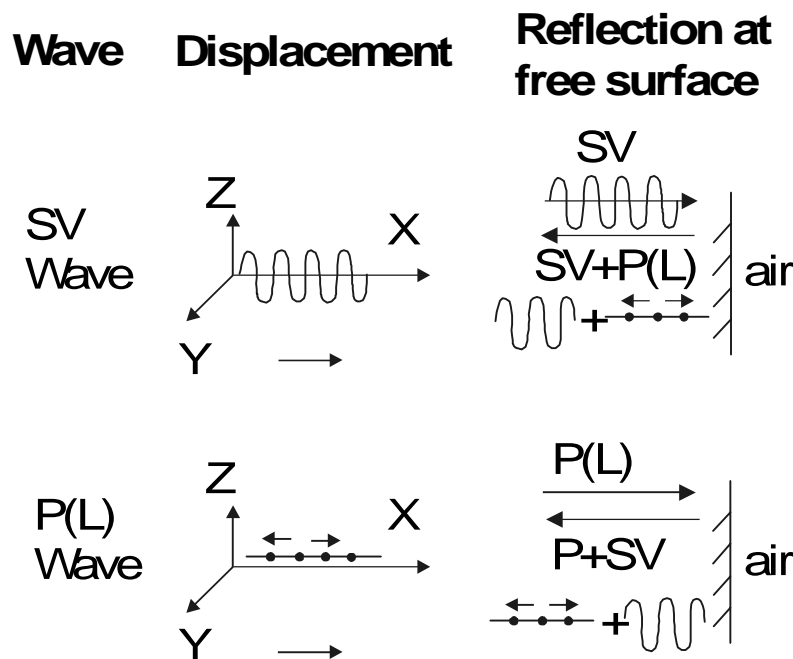

Figure 104: Rayleigh Wave Components
The idea behind a SAW resonator is to create a standing wave across the substrate and have a single interdigital transducer (IDT) act as both the receiving and transmitting antenna. Conventional SAW filters and resonators utilize what is called a Rayleigh wave (Figure 104). This consists of a wave that displaces in two dimensions (X and Z in Figure 104). If you imagine a rectangular table, the first part of the wave would be a variation in the thickness of the table (the SV wave). The second part would be compressing the table in the same direction that the wave is traveling (the L wave). This would be like pushing and pulling on the ends of the table. The problem with this kind of wave is that it does not reflect well at the free edge of the substrate. As can be seen in Figure 104, when the SV wave reflects, a spurious P(L) wave component is generated. Likewise, a spurious SV wave is generated when the P(L) wave is reflected. This leads to signal distortion and loss of energy due to the creation of the spurious waves..